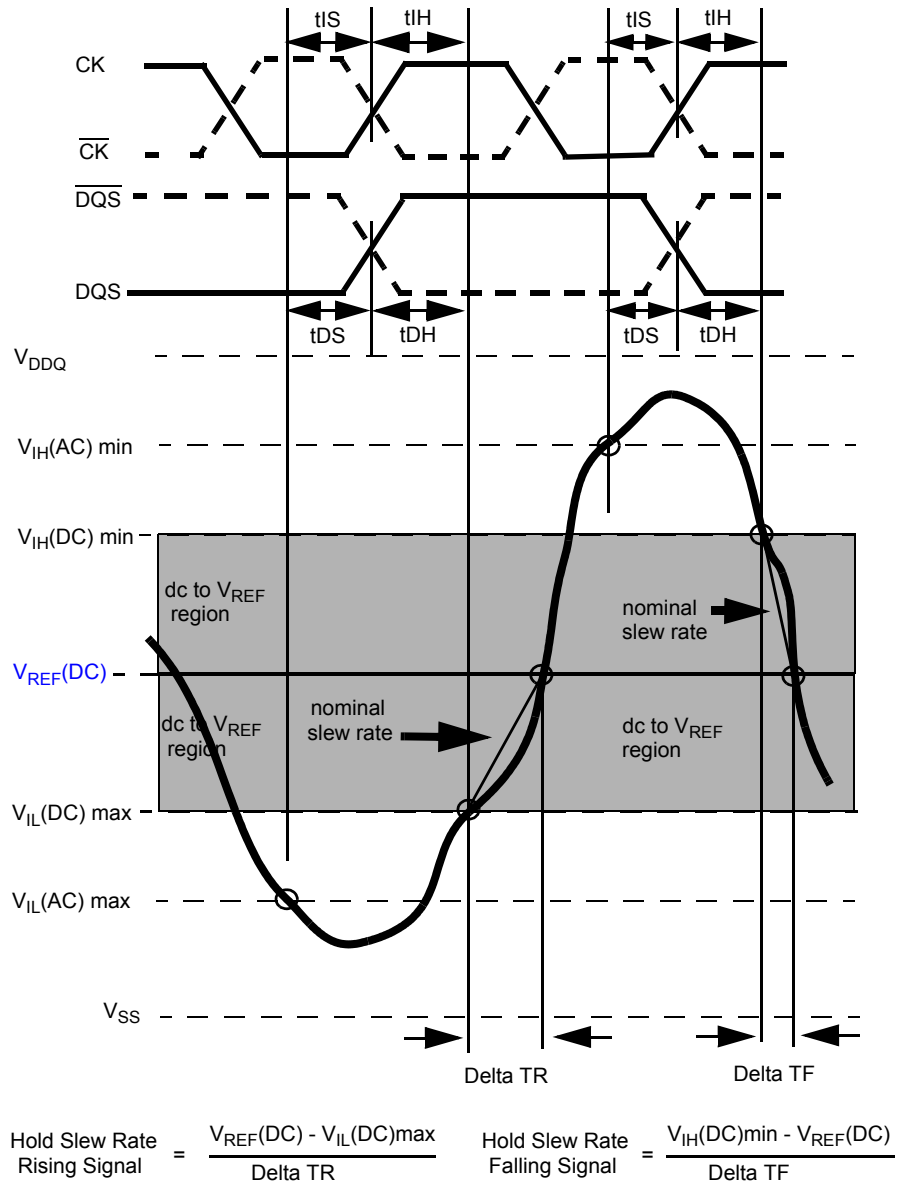
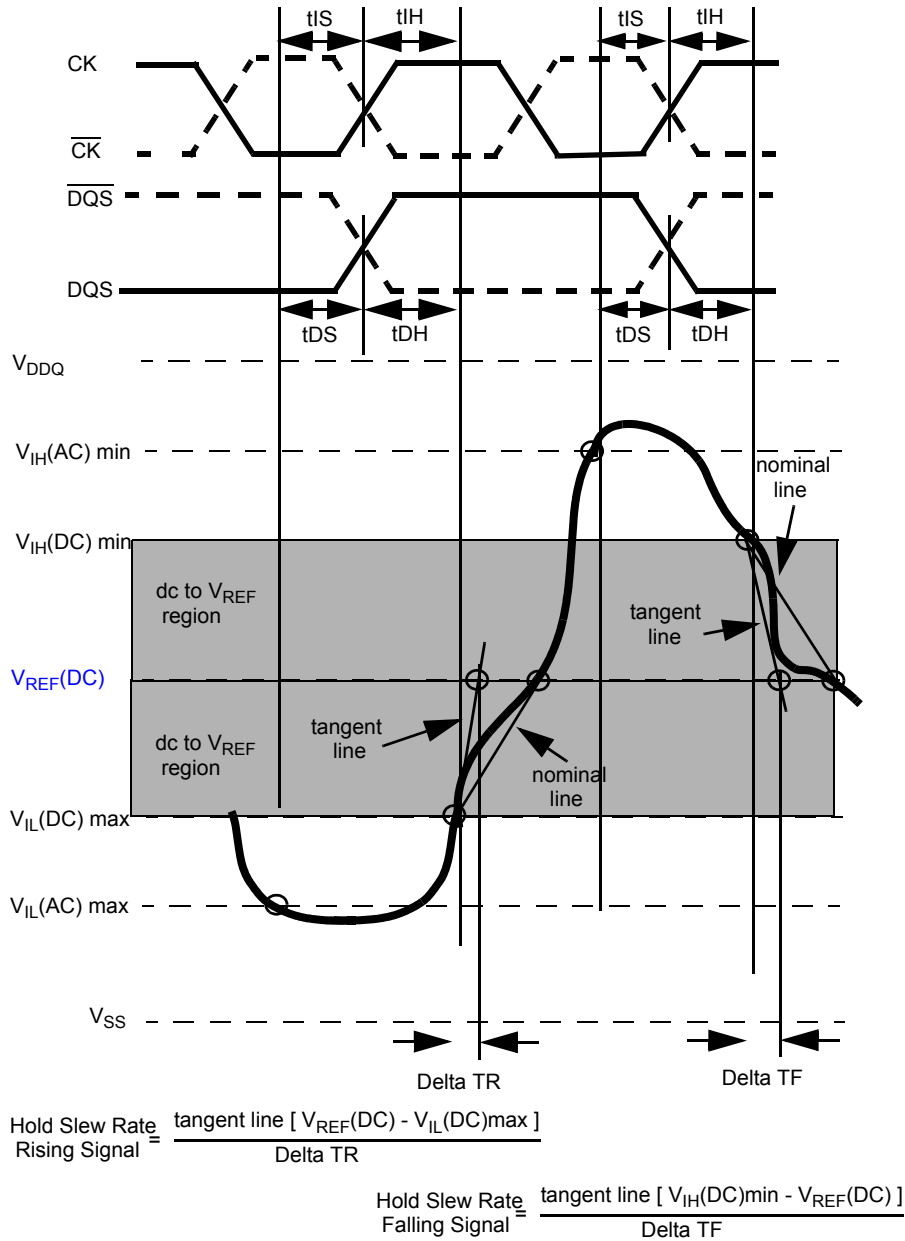

Figure 26 - Illustration of nominal slew rate for hold time t_{DH} (for DQ with respect to strobe) and t_{IH} (for ADD/CMD with respect to clock).
Figure 28 - Illustration of tangent line for hold time tDH (for DQ with respect to strobe) and tIH (for ADD/CMD with respect to clock)
Hold (tDH) nominal slew rate for a rising signal is defined as the slew rate between the last crossing of V_{IL}(DC)max and the first crossing of V_{REF}(DC). Hold (tDH) nominal slew rate for a falling signal is defined as the slew rate between the last crossing of V_{IH}(DC)min and the first crossing of V_{REF}(DC) (see Figure 26). If the actual signal is always later than the nominal slew rate line between shaded 'dc level to V_{REF}(DC) region', use nominal slew rate for derating value. If the actual signal is earlier than the nominal slew rate line anywhere between shaded 'dc to V_{REF}(DC) region', the slew rate of a tangent line to the actual signal from the dc level to V_{REF}(DC) level is used for derating value (see Figure 28).